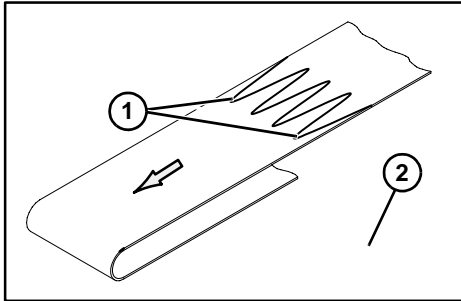

Figure 53
1. Orient belt so splice leading fingers (**Figure 53, item 1**) point in the direction of belt travel as identified by the conveyor directional label (**Figure 53, item 2**).
2. Orient belt so splice leading fingers (**Figure 53, item 1**) point in the direction of belt travel as identified by the conveyor directional label (**Figure 53, item 2**).